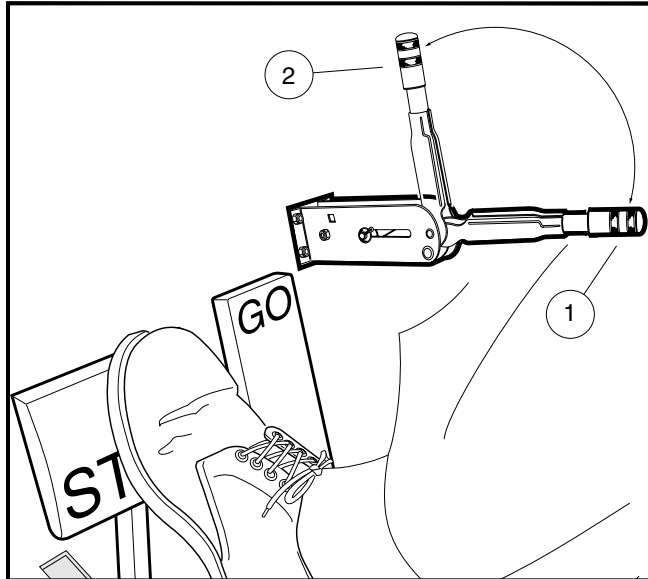

Figure 7 Hand Brake
The park brake handle is located on the floorboard to the right of the accelerator pedal. To set the hand brake, pull the park brake handle down until park brake is fully engaged (1). To disengage, press the button on the end of the handle and return handle to upright position (2) (**Figure 7**).